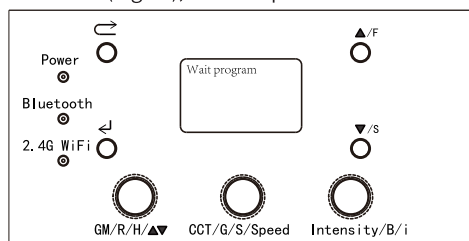

Fig.19 Wait for Firmware update
1. Long press “▲” (Fig.11 ⑪), “▼” (Fig.11 ⑩), and open the power switch. When the letters (Fig.19) are shown on the control panel LCD (Fig.11 ⑧), then it can be connected to the Bluetooth APP (Bluetooth connection method in [The acquirement and use of the APP]);